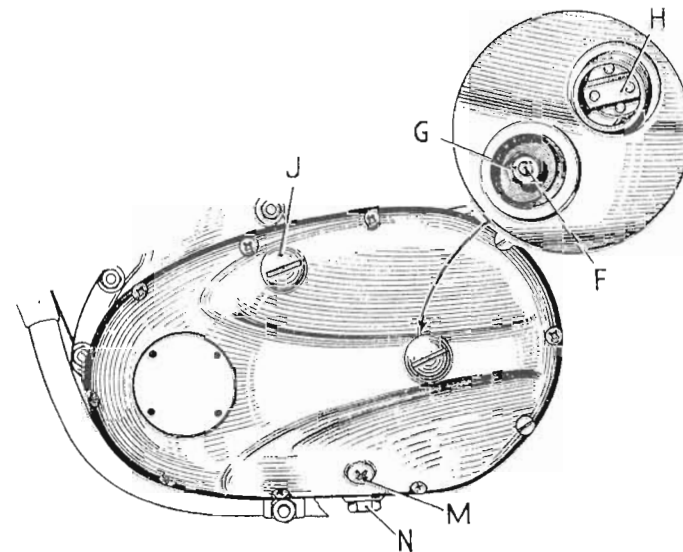
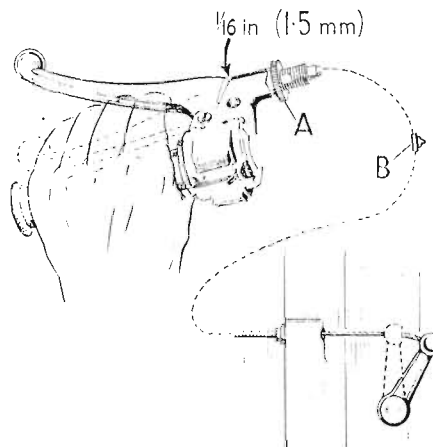

FIGURE 22. Clutch adjustment and chaincase oil level.
FIGURE 23.
An adjustable slipper-type tensioner is provided for the chain and its slackness can be tested after removal of the filler cap (J) FIG. 22. The chain is in correct adjustment when there is a minimum of 1/8" and a maximum of 1/4" of free play at the midway position between the sprockets.
The screw (M) FIG. 22, determines the oil level. To replenish with oil, first remove this screw and then the filler cap (J) at the top of the chaincase. Add oil of the correct grade (see "Recommended Lubricants", page 28) and allow to stand until any surplus oil has drained away. Replace the level screw and inspection cap. The machine should be on horizontal ground when this operation is carried out.
The main adjustment consists of a screw pin (F) and locknut (G) mounted on the clutch pressure plate. These are accessible after removal of the inspection cover (H) FIG. 22.
If adjustment is necessary, slacken off the handlebar cable adjuster (A) FIG. 23, and release the cable from the control lever above the timing cover on the right-hand side of the motor. Release locknut (G) FIG. 22, and adjust the pin (F) until the control lever is inclined outwards by a small amount. Add a short length of tubing to the lever to provide additional leverage and disengage the clutch, when the lever should take up a position approximately parallel with the timing cover joint face. If necessary the adjustment must be modified until this condition is obtained.
Finally reconnect the cable to the control lever and readjust the cable length at the handlebar lever until there is about 1/8" of free play (see FIG. 23).